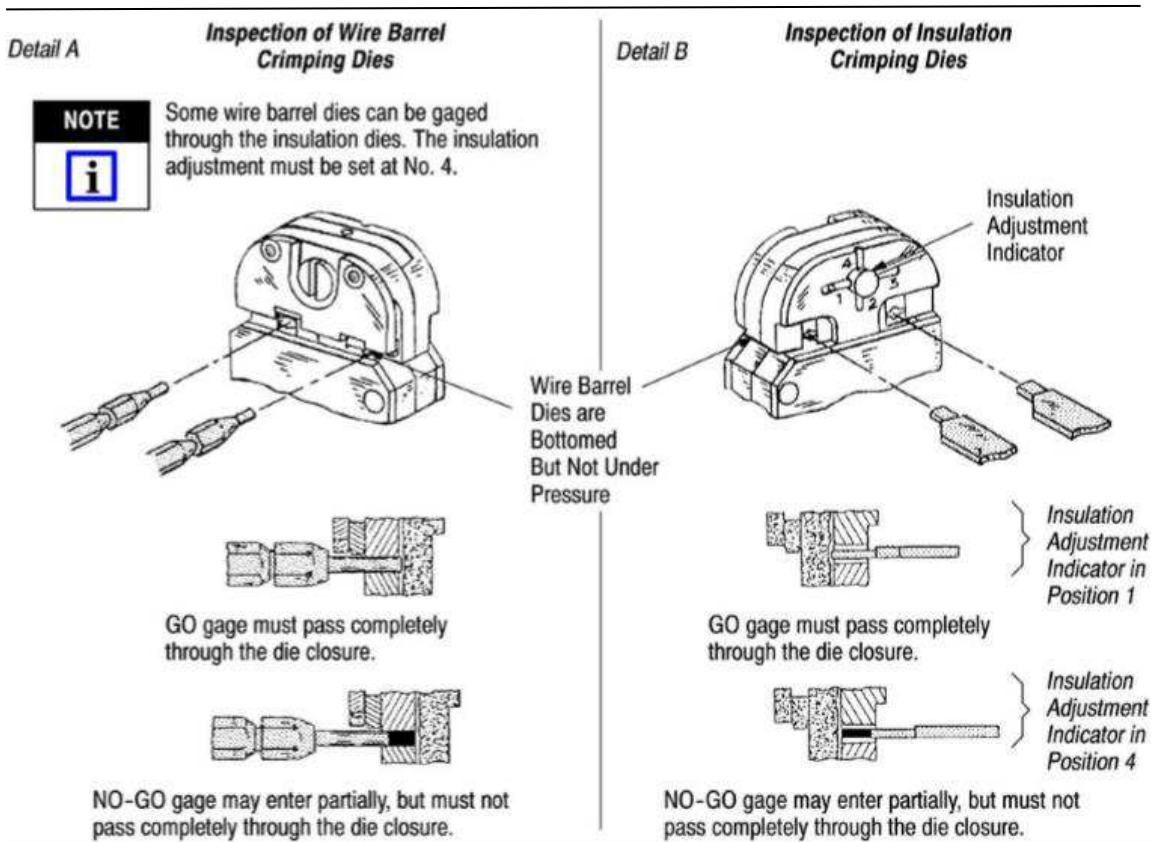

Figure 12
To gage the crimping area(s), refer to Figure 12 and proceed as follows:
3. With wire barrel dies bottomed, inspect the wire barrel crimping chamber using the proper plug gage. Lift the spring-loaded locator up and hold gage in straight alignment with the crimping chamber. Carefully try to insert, without forcing, the GO element. See Figure 12, Detail A. The GO element must pass completely through the crimping area.
5. Set insulation adjustment indicator in Position 1. Measure both insulation crimping chambers with the proper GO plug gages in the same manner as Steps 2 and 3. See Figure 12, Detail B.
6. Set insulation adjustment indicator in Position 4. Measure both insulation crimping chambers with the proper NO-GO plug gages in the same manner as Steps 2 and 4. See Figure 12, Detail B.